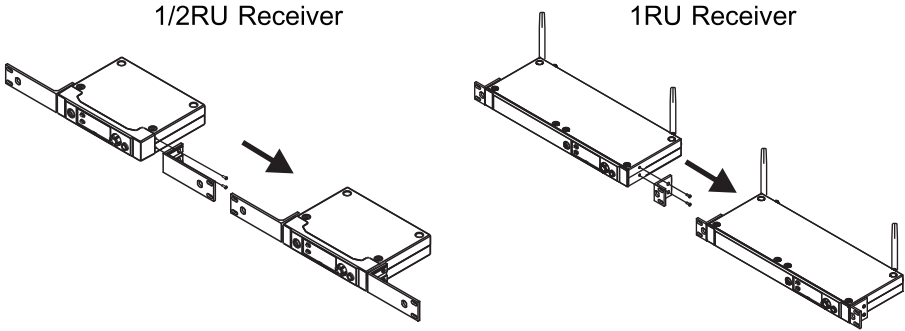

Fig. 9
1. Install and fasten the rackmount kits on the receiver. Fig. 9